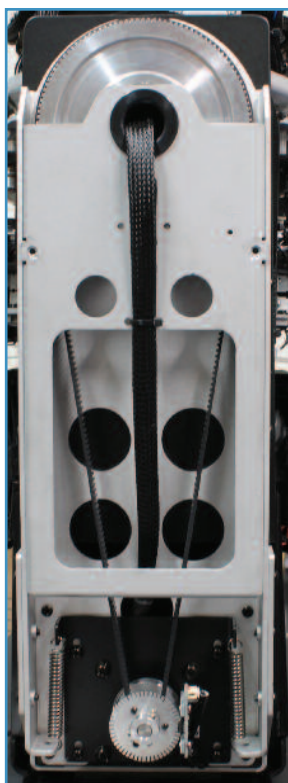

Figure 18: Yoke arm.
0.06° of hysteresis which is 0.3" at a throw of 20' (10mm at 10m). Tilt had 0.12°, 0.5" at 20' (21mm at 10m). Figure 18 shows the tilt system in one of the yoke arms.